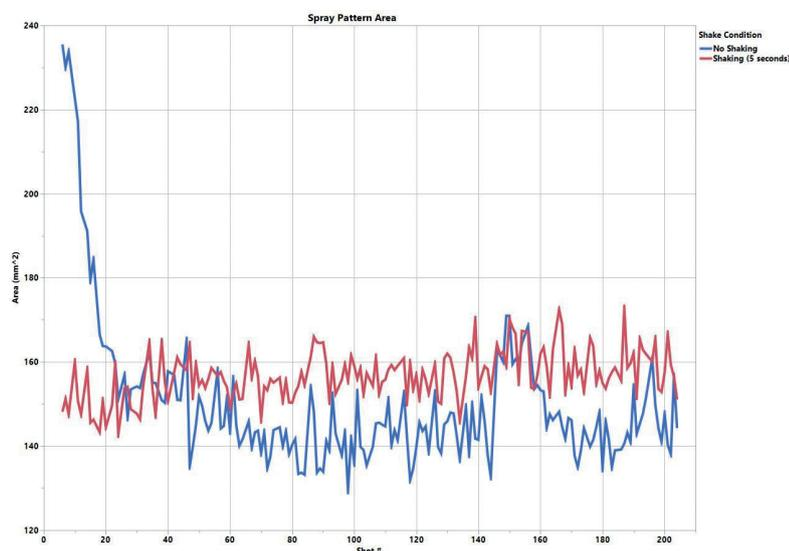

Figure 3: Effect of shaking on spray pattern area over the life of the product.
The same effect as described above was observed when spray pattern (SP) area was measured using Proveris' Sprayview® measurement system over the entire life of the device (Figure 3). Initial high SP area followed by a steep drop was observed for the “no shaking” condition. In comparison, a more uniform SP area was seen for the five-second shake duration.